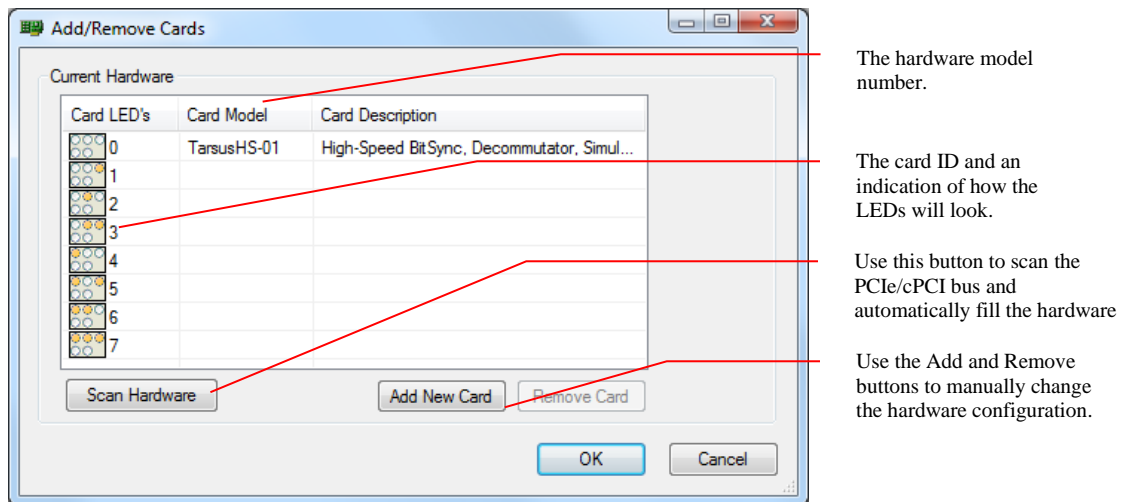

Figure 32 – Add/Remove Cards
1. From the ALTAIR main screen, click on the Add/Remove Cards on the Hardware explorer docking window. The Add/Remove Cards screen will be displayed. (See Figure 32 – Add/Remove Cards.)